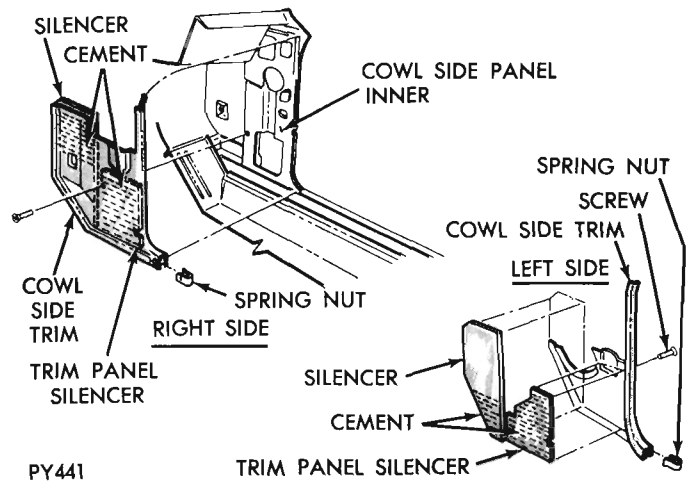

Fig. 6 - Cowl Side Trim Panel
**Cowl Side—Trim Panel (Fig. 6)**
- (1) Assemble spring nut to cowl trim panel.
- (2) Apply cement to felt side of silencer, and cowl side trim rear.
- (3) Position cemented surface of silencer to panel, cowl side trim assembly. Press down firmly to obtain proper adhesion.
- (4) Place assembly to cowl side inner panel. Align holes and secure with screw.